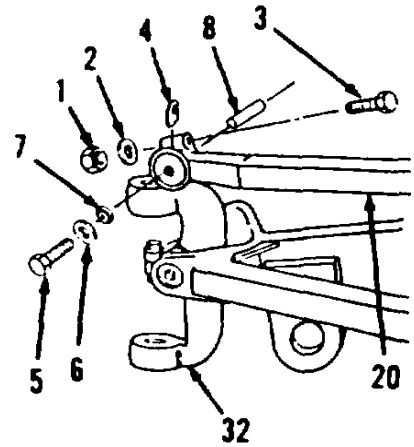

Figure 5-96.
30. Install pin (8, Figure 5-96) on right, front of vehicle. Groove in pin (8) must align with opening in top of arm (32).
31. Install retainer (7), washer (6) and bolt (5). Use shim(s) between pin (8) and retainer (7) to give a 0.030 inch gap between bar (20) and retainer (7).
32. Install lock (4), bolt (3), washer (2) and nut (1).